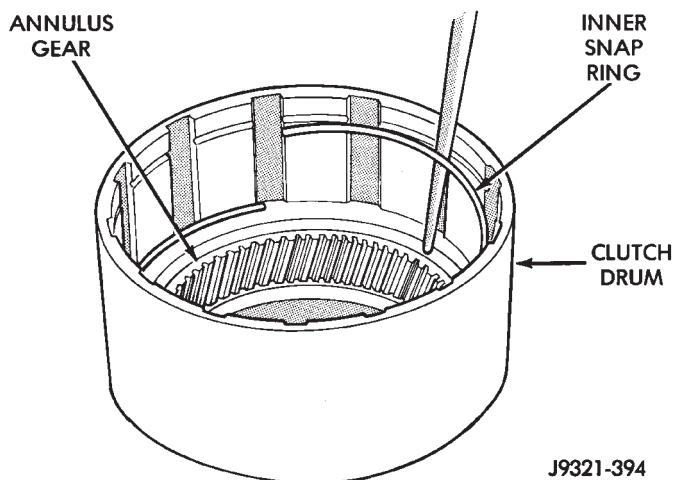

Fig. 38 Installing Clutch Drum Inner Retaining Ring
(6) Slide clutch drum forward and install inner retaining ring (Fig. 38).